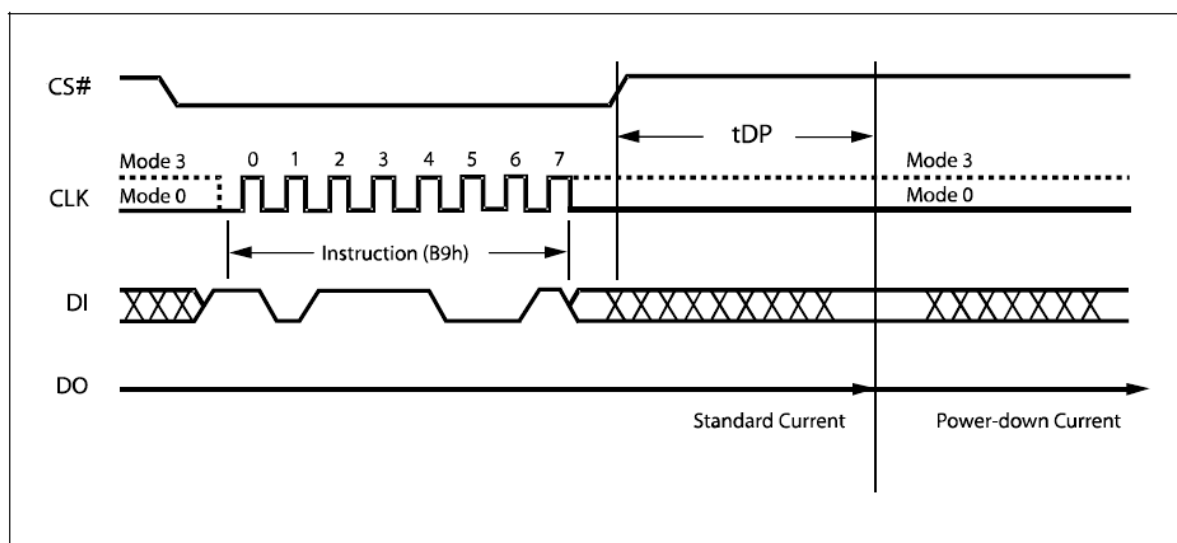

Figure 35. Deep Power-down Instruction Sequence Diagram
The instruction sequence is shown in Figure 35. Chip Select (CS#) must be driven High after the eighth bit of the instruction code has been latched in, otherwise the Deep Power-down (DP) instruction is not executed. As soon as Chip Select (CS#) is driven High, it requires a delay of t_{DP} before the supply current is reduced to I_{CC2} and the Deep Power-down mode is entered.